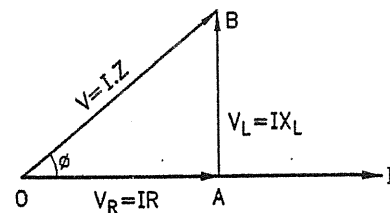

FIG. 2.43 : PHASOR DIAGRAM OF R-L SERIES CIRCUIT
- As the R and L are connected in series, the same current (I) will flow through both of them.
- The complete phasor diagram of R-L series circuit is shown in Fig. 2.43